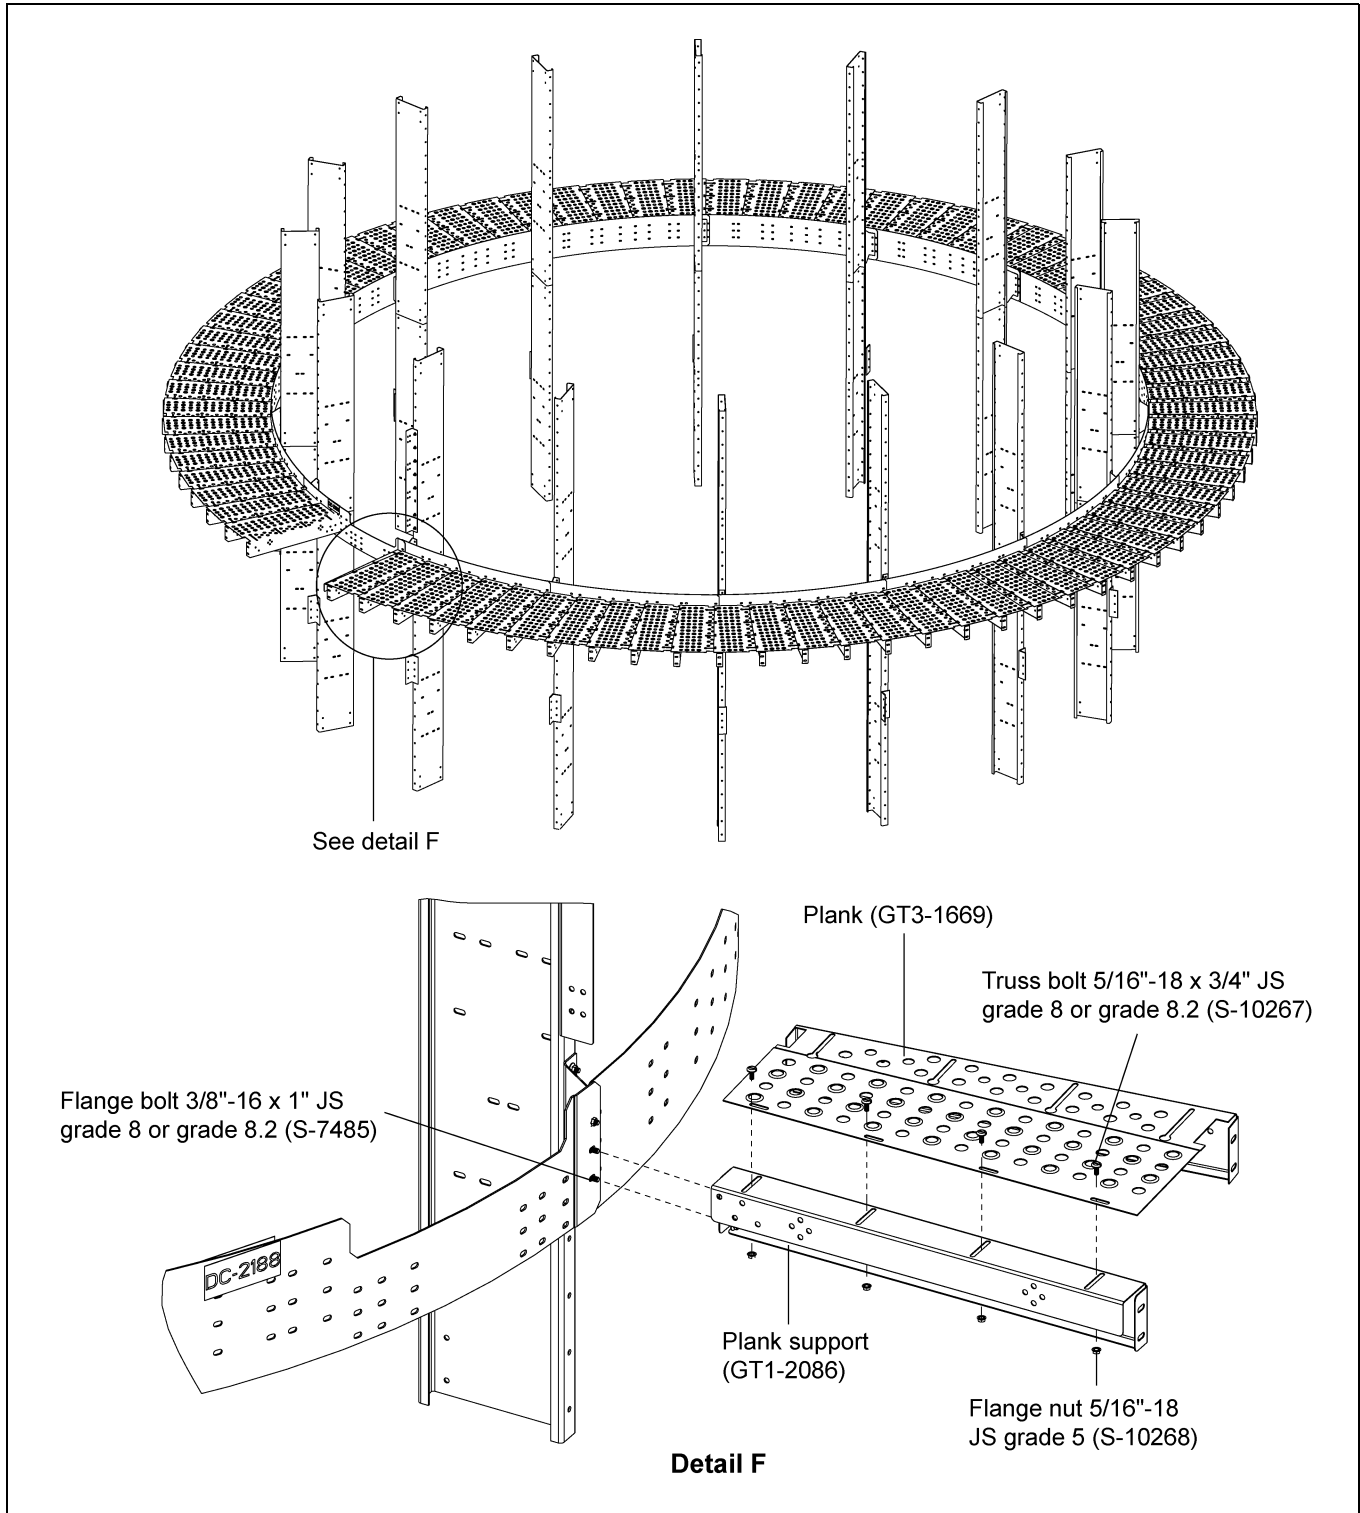

Figure 40
1. Once the planks are installed, install the plank support (GT1-2086) to the last plank (GT3-1669) using 5/16"-18 x 3/4" JS grade 8 or grade 8.2 bolts (S-10267) and 5/16"-18 JS grade 5 nuts (S-10268) and to the toe board (GT1-2035) using 3/8"-16 x 1" JS grade 8 or grade 8.2 bolts (S-7485) and 3/8"-16 ZN grade 5 nuts (S-968). (See Figure 40.)